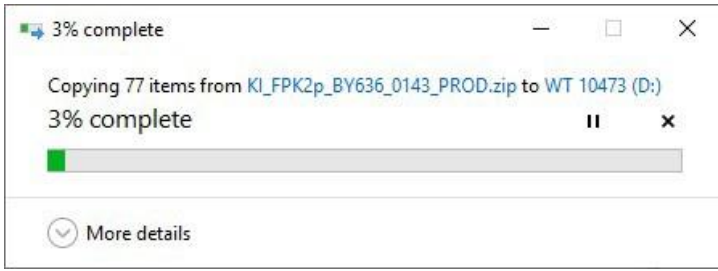

Figure 5
5) Referring to Figure 5 - The operative MUST wait until the file has completely extracted, Do Not remove the USB-C stick or stop the copying of files until 100% extracted